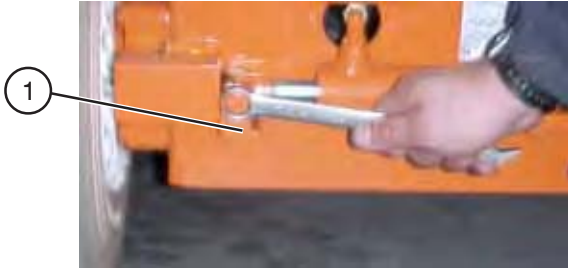

Figure 2-11. Parking Brake
- 1- **Free-Wheeling Valve** - The free-wheeling valve is located at the front or rear of the machine. Turning the valve knob counterclockwise to a fully opened position allows fluid to flow through the wheel motors, thus providing “free-wheeling” so that the work platform can be pushed, towed or winched after the brakes are released (Figure 2-11) without damaging the wheel motors. When pushing, towing or winching, **DO NOT** exceed 2 mph (3.2 km/h). **DO NOT** push or tow the platform onto a downward slope or pull the platform down an incline towards the winch. The Free-wheeling valve **MUST** be closed tightly (clockwise) for normal operation.